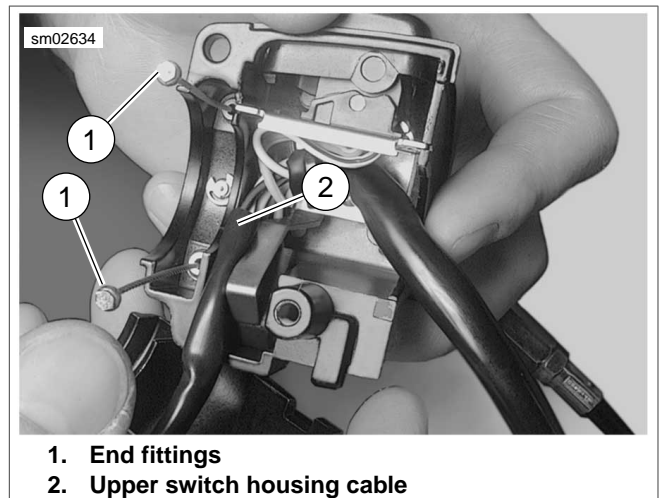

Figure 7-87. Route Cable to Upper Switch Housing
2. See Figure 7-87. Route the cable (2) to the upper switch housing as shown.